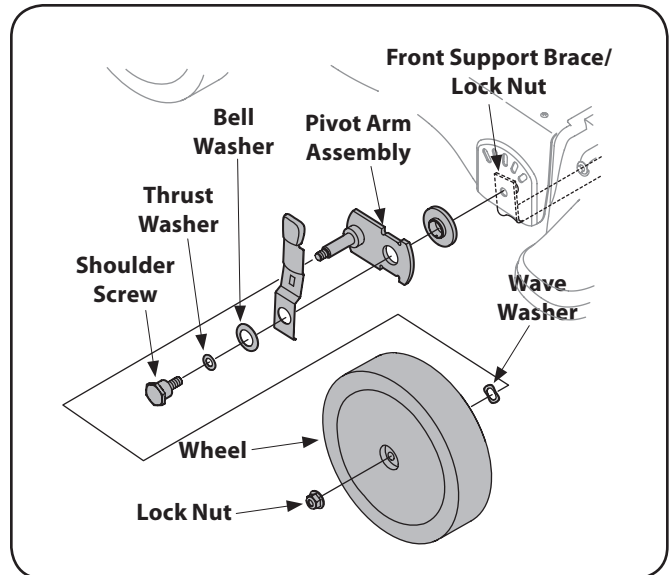

Figure 7-2
4. Remove the flange lock nuts, front wheels, and wave washers that attach to the pivot arm assemblies. See Fig. 7-2.